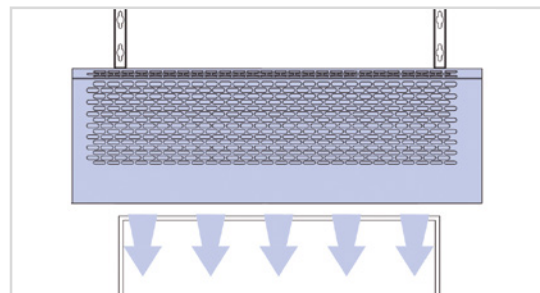

Figure 2
- To ensure these work correctly, the curtain should overlap approximately 100 mm each side of the doorway (see figure 2).